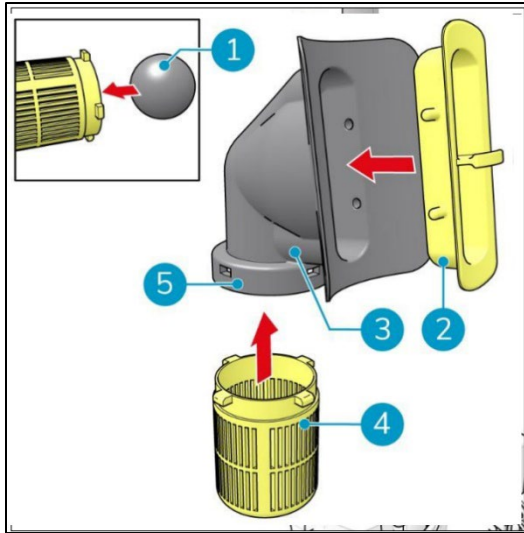

Figure 33
8. Place the floating ball in the float ball housing (Figure 33, pos 1).
9. Press the float ball housing (Figure 33, pos 4) into the rubber housing (Figure 33, pos 3). Make sure that the 4 nocks of the float ball housing fit into the holes in the rubber ring (Figure 33, pos 5).
10. Press the support frame (Figure 33, pos 2) in the rubber housing (Figure 33, pos 3). Make sure that the 4 nocks fit into the holes of the rubber housing.
11. Fill the recovery tank with approximately 1 liter of tap water (Figure 33, pos 1).